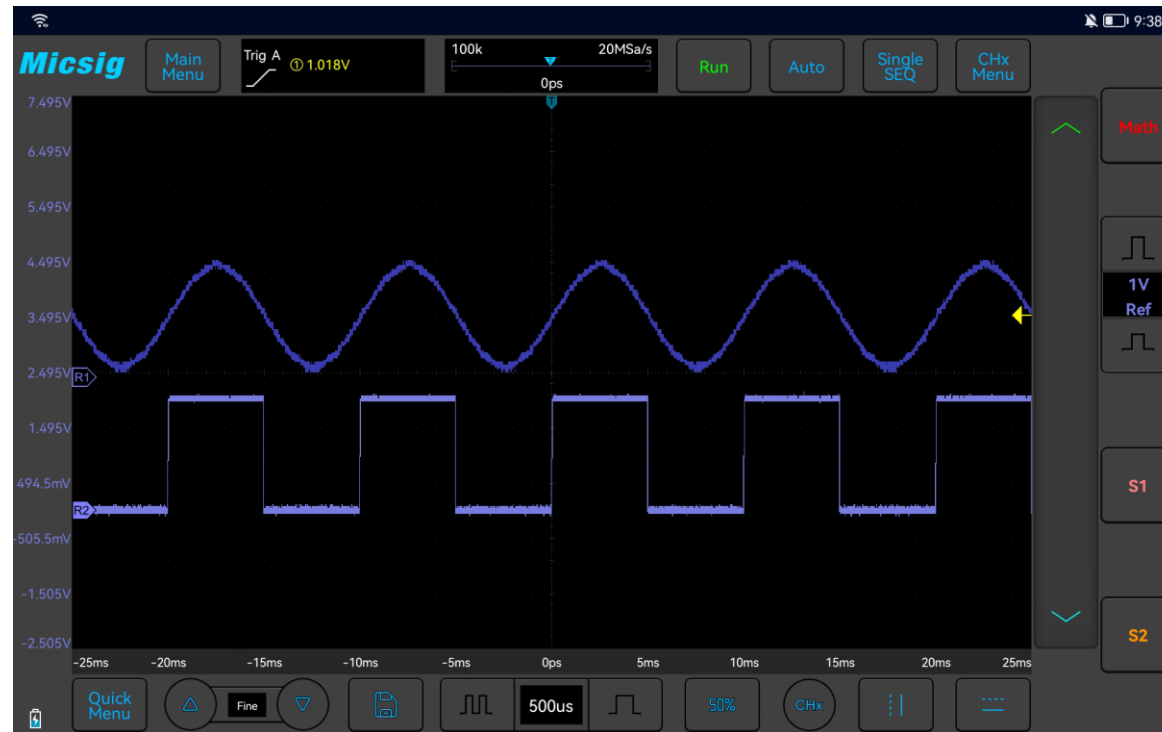

Figure 8-6 Current Reference Waveform
- 3) Click the name of the reference waveform file to be called. The file is loaded into R1 channel. Then, R1 channel is turned on as the current channel waveform, and the reference waveform channel icon  is highlighted. The displayed state changes from “Close” to “Open”. As in Figure 8-6, the brighter reference waveform is shown as the current reference channel.